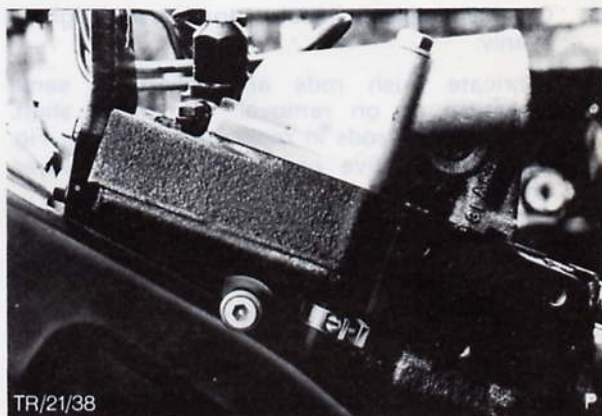

Fig. 103. Remove by-pass hose
14. Remove engine mounting rubber insulators front right and left-hand side (2 nuts) and carefully raise engine from underneath sump to gain access for removal of toothed belt cover to cylinder head bolt and of water pump to cylinder head by-pass hose, Fig. 103.